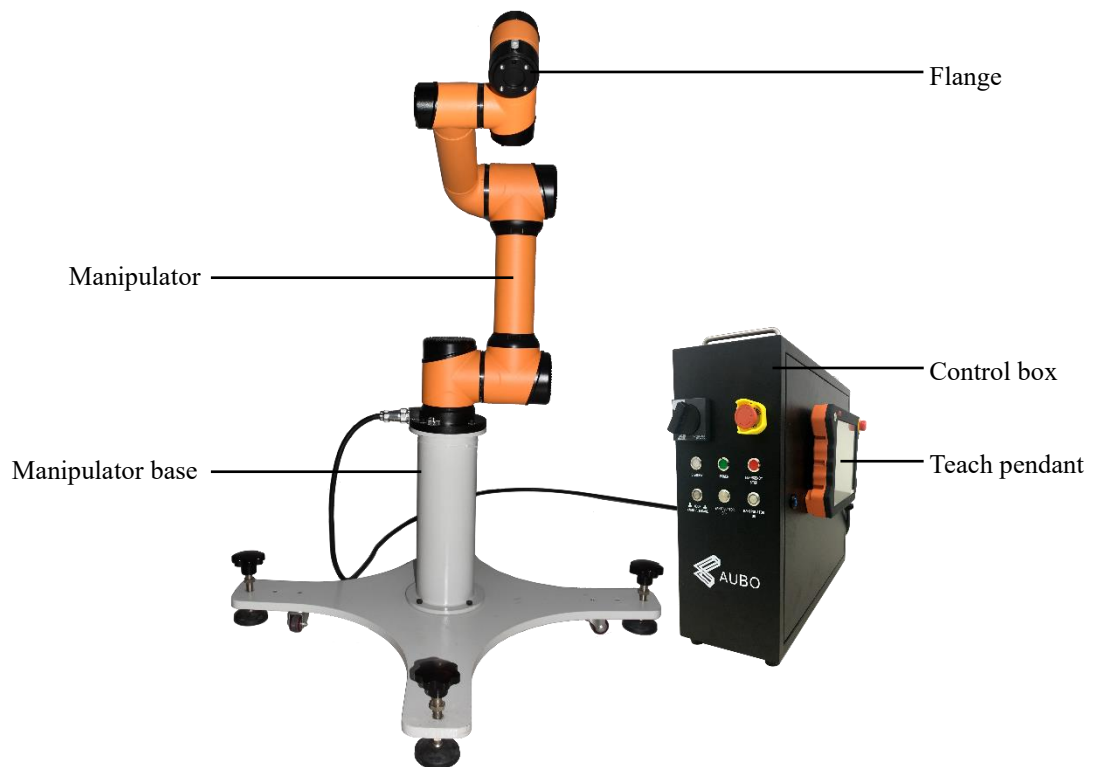
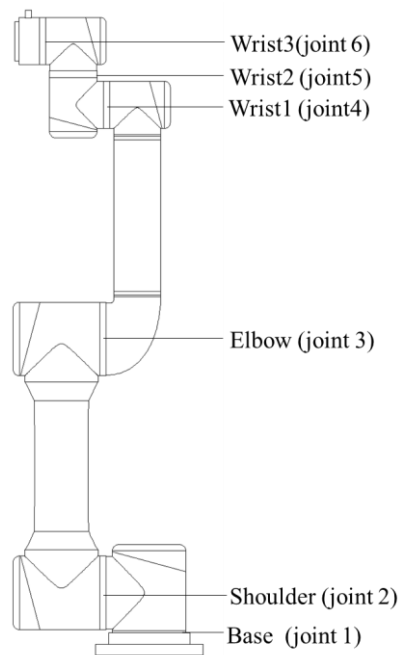

Figure 5-1 AUBO-i5 robot
Figure 5-2 -1 Manipulator Joints
As shown in figure 5.1, The AUBO-i5 robot system consist of a manipulator, a control box(which can choose a variety of models), a manipulator base and a teach pendant. The manipulator imitates human which has six joints and each joint represents a degree of freedom. As shown in figure5.2, manipulator's joint includes a robot base (A), a shoulder (B), an elbow (C), a wrist1(D) ,a wrist2(E) and a wrist3(F). The manipulator base is used for the robot body and the base connection. End-effector is used to connect manipulator and tool. Aluminium pipe is used to connect shoulder and elbow or elbow and wrist. Through the AUBOPE user interface or hand-guiding, users can control the rotation of every joint and move end-effector to any poses.